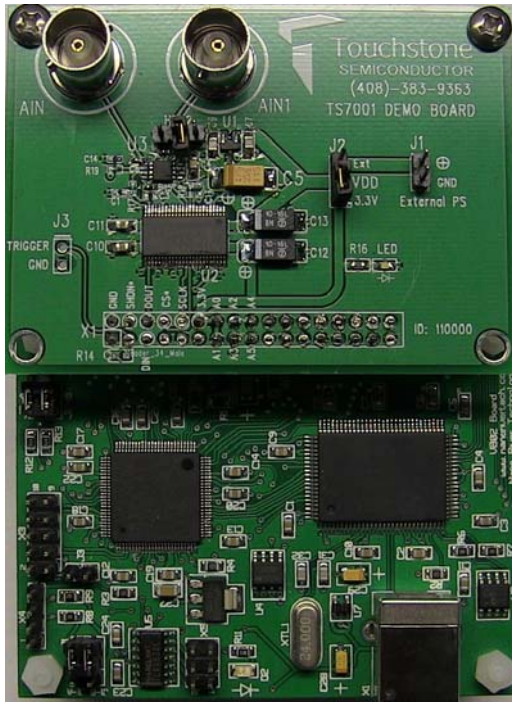
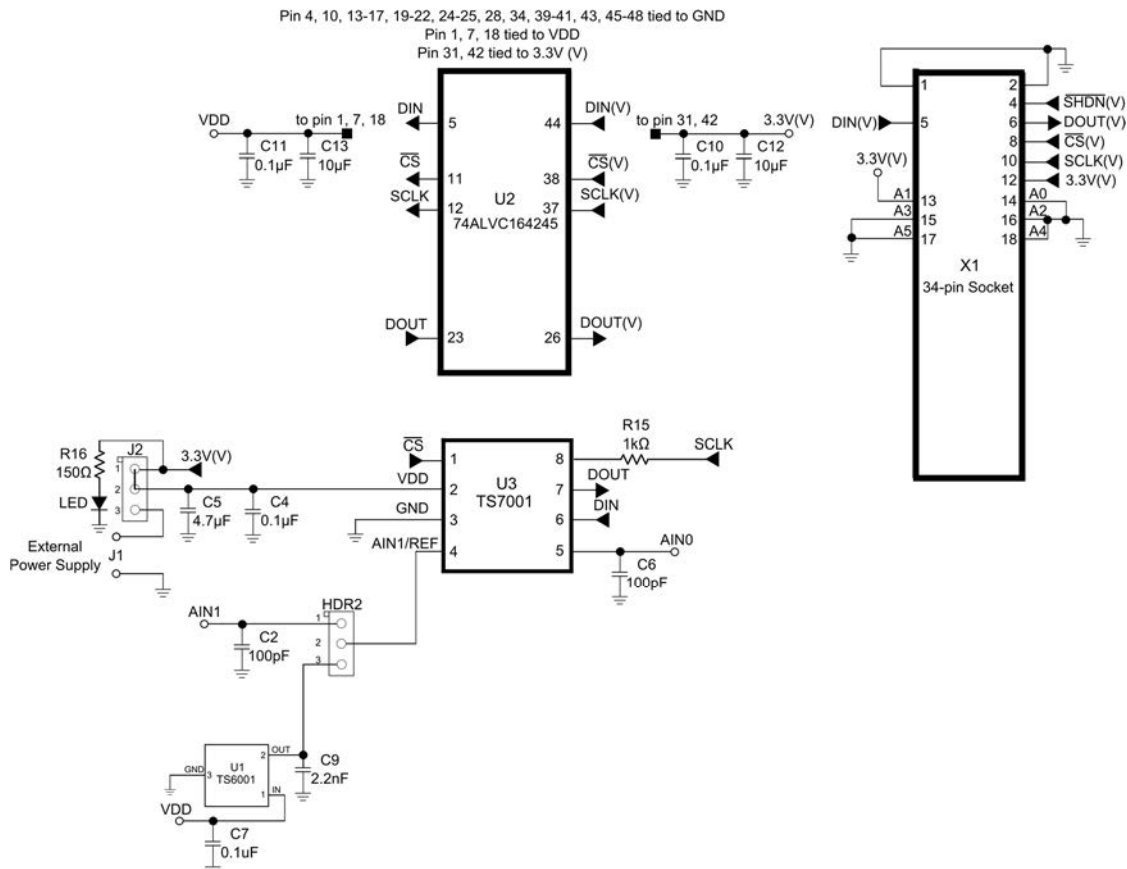

Figure 1. TS7001 Evaluation Board with Nano River Tech Viperboard
Figure 5. TS7001 Evaluation Board Circuit
Figure 5 shows the TS7001 demo board schematic, Figure 2 and Figure 3 show a picture of the top and bottom of the TS7001 demo board, respectively. Figure 1 shows a picture of the TS7001 demo board with the ViperBoard connected.
In order to evaluate the TS7001, jumper J2 is to be set to position 2-3 and jumper HDR2 is to be left unconnected. The default configuration for J2 and HDR2 is 1-2 and unconnected, respectively. Refer to Figure 5 and Table 1. The default configuration on the board is for $V_{DD} = +3.3V$. For this evaluation, we will use an external +3.6V power supply and an external +3.6V reference voltage. The following steps are to be performed:
- 1) Set the voltage of the power supply between +2.7V and +3.6V and turn it off. Connect the positive terminal of the DC power supply to pin 12 labeled as "3.3V" on X1, and the ground terminal to pin 2 labeled as "GND". Refer to Figure 5.
- 3) To measure the supply current of the TS7001, place jumper J2 to position 2-3. Then, apply an external power supply to J1. An ammeter can now be connected in series with the power supply for a static supply current measurement of the TS7001. The supply current should be less than 900 μ A. Please refer to Figure 5 and table 1.